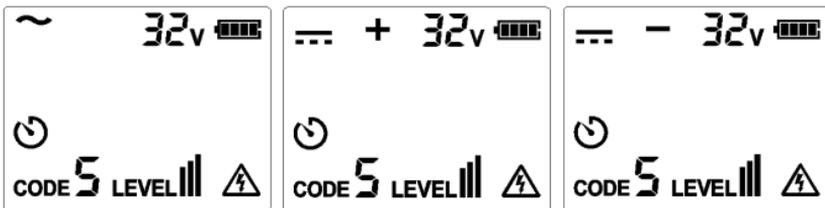

Figure 7.1.2a – Voltage Over 30V
2. Test and confirm if the connection of test leads is correct. For circuits with voltage over 30V AC/DC, the warning symbol will light up, as shown in **Figure 7.1.2a**.